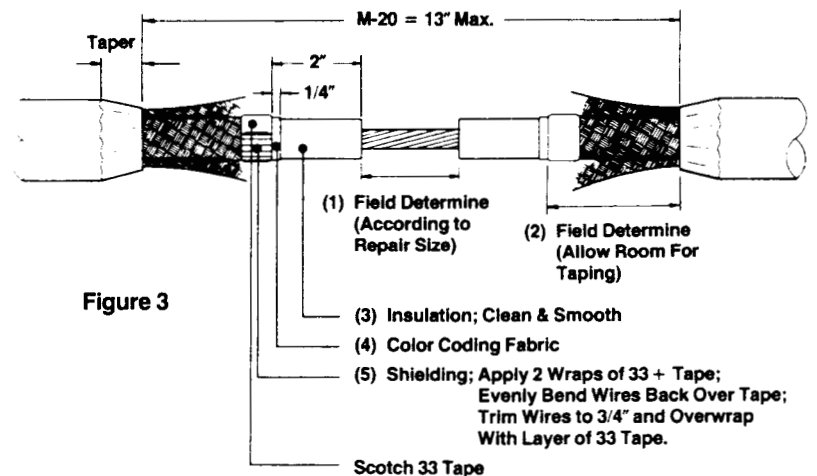

Figure 3
2. 600/2000 Volt Shielded Portable Cable (Figures 3 & 4):